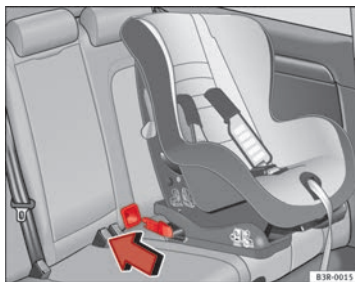

Fig. 33 The ISOFIX child seat anchors slide along the fitted plastic guides until secured in the vehicle's ISOFIX anchorages
- Slide the child seat anchorages along the plastic guides until secured in the vehicle's ISOFIX rings (when correctly closed, you will hear a “click”). The seat should also have a visual indicator to confirm it is correctly secured ⇒ Fig. 33.